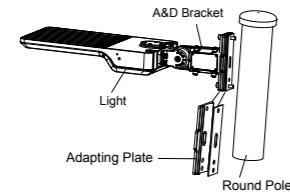

Figure 18
- Same as round pole installation, please remember to use the adapting plate for round pole installation (Figure 18)